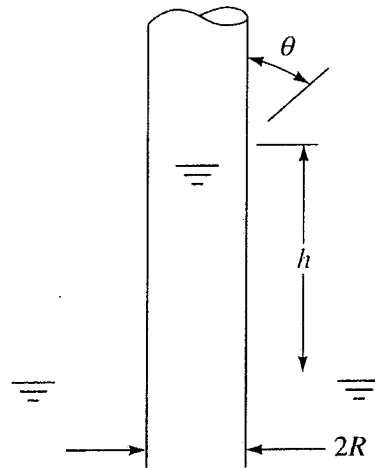

Figure 8
- (b) Derive an expression for the change in height 'h' in a circular tube of liquid with surface tension σ and contact angle θ , as shown in Figure 8 below.